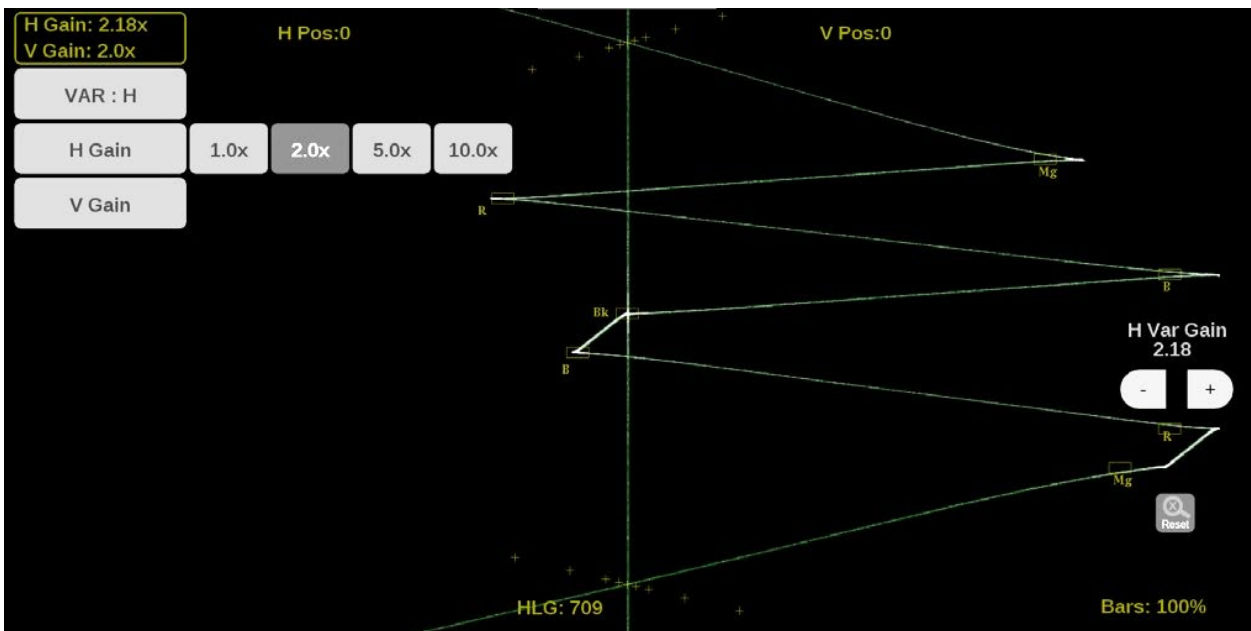

Figure 213: Lightning on-screen tools – horizontal gain
1. Select the button in the top left corner to expand the available options drop down list. (See Figure 213.)